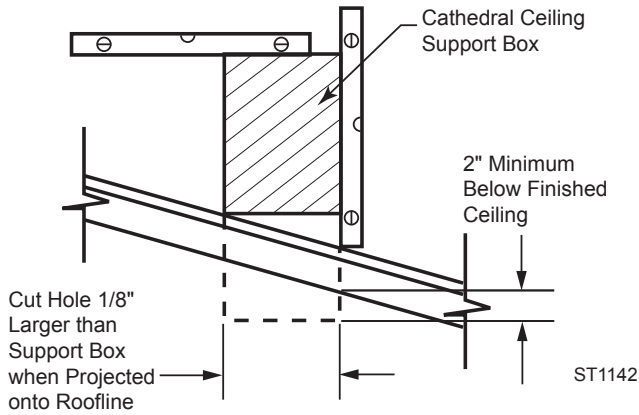

Figure 27 - Cathedral Ceiling Support Box Installation
2. Cut the hole 1/8" larger than the support box outline. *Figure 27*.
3. Lower the support box through the hole in the roof until the bottom of the box extends at least 2" (mm) below the ceiling. *Figure 27*. Align the support box vertically and horizontally using a level. Temporarily tack the support box in place through the inside walls and into the roof sheeting.